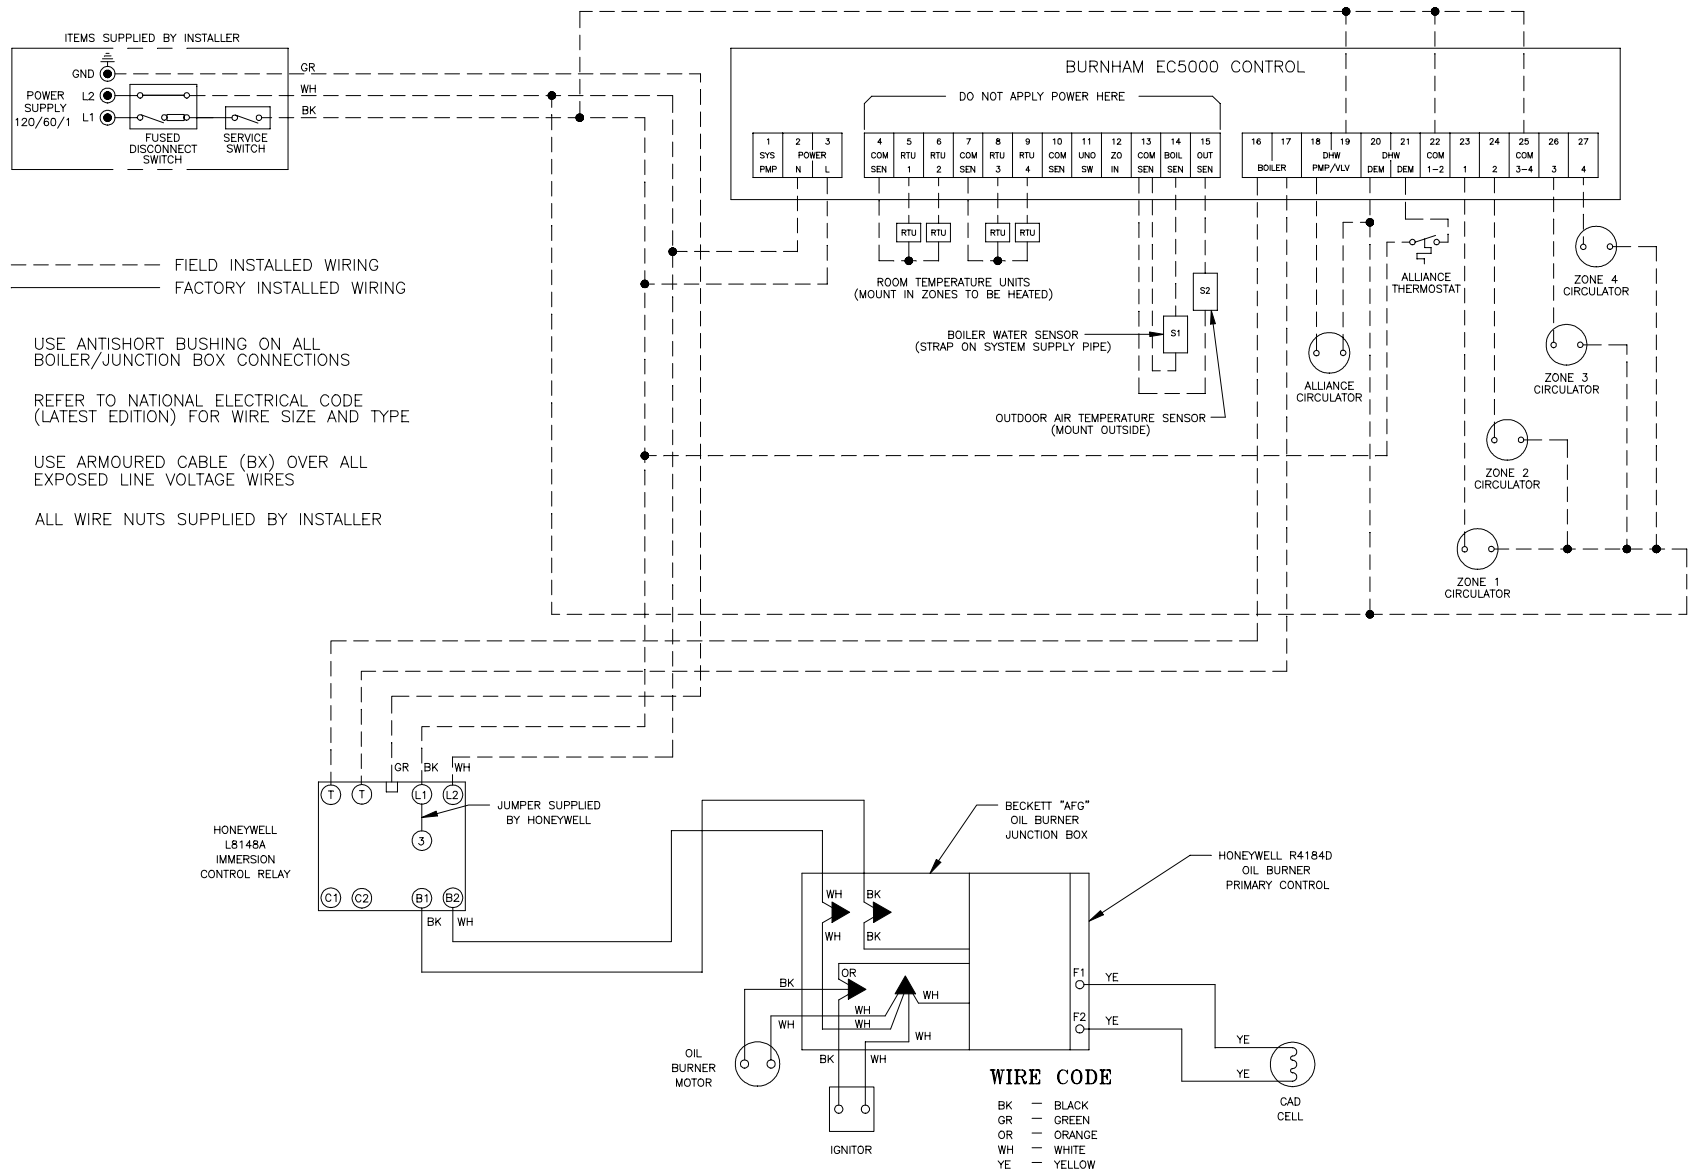

Figure 19: Circulator Zoning with EC5000 Wiring Schematic
8. Burnham EC5000 Circulator Zoned System – Refer to Figure 19 of this manual for the electrical diagram for this type of system. Wire the system as indicated in that diagram. Refer to the manual provided with the Burnham EC5000 Control for control operation and setup details.